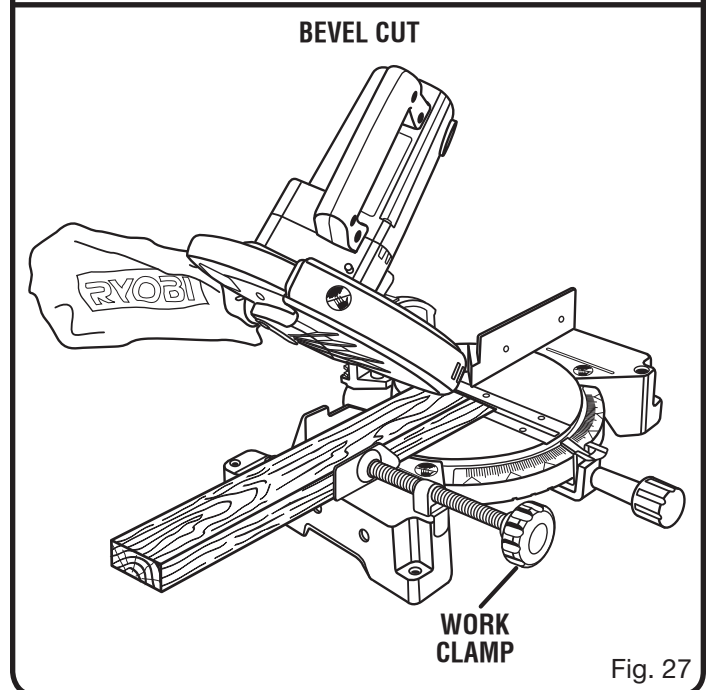

Fig. 27
- Grasp the stock firmly with one hand and secure it against the fence. Use the optional work clamp or a C-clamp to secure the workpiece when possible. See *Figure 27*.